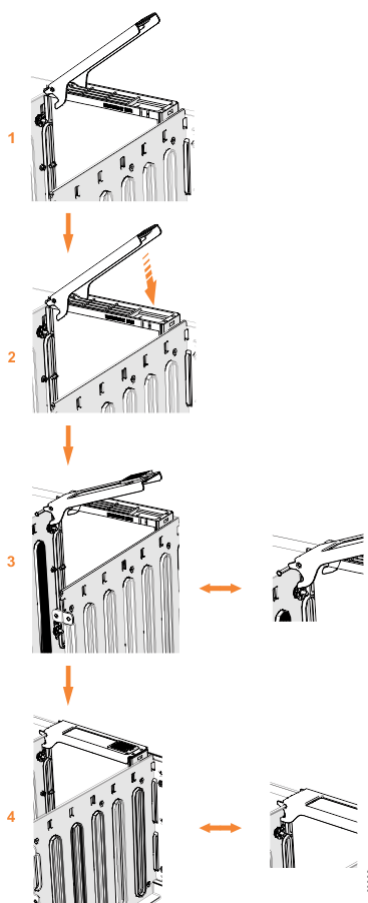

Figure 38. Replace the drive
5. Ensure that the drive handle (1 in Figure 38 on page 48) of the drive assembly is in the open (unlocked) position.
7. Gently push the drive down until it stops and the bottom of the latch is aligned with the top of the partition. Ensure that the handle is not open more than 45 degrees from the drive carrier. (2 in Figure 38 on page 48).
8. Rotate the handle down to lock the drive assembly into the chassis (3 in Figure 38 on page 48).
10. Ensure that the top toe of the latch is also fully engaged (4 in Figure 38 on page 48).